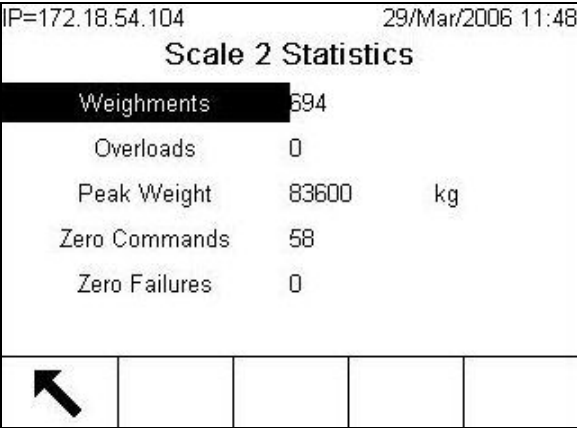

Figure 3-24: Scale Statistics Screen
- Statistics—Displays statistical information for each scale such as the total number of weighments, the number of scale overloads, the peak weight weighed on the scale, the total number of zero commands, and failed zero commands (Figure 3-24). These are very helpful when diagnosing scale problems. These statistics accumulate for each scale, and are saved until a master reset is performed. It is not considered likely that a master reset will be a frequent occurrence, so these statistics are effectively permanent.